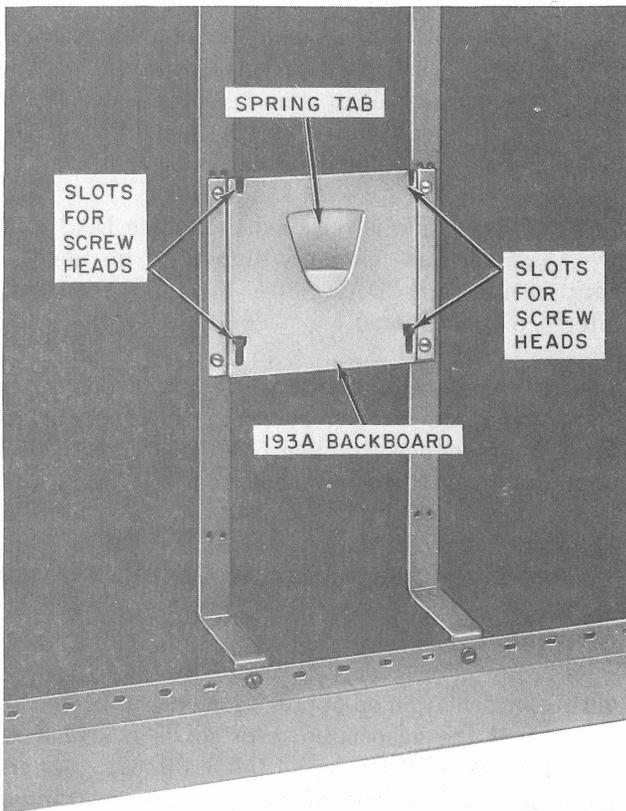

Fig. 1—193A Backboard for Mounting DAS 830A in a TTY
2.02 When DAS 830A is mounted in any TTY, a 193A backboard (Fig. 1) is used. DAS 830A is secured to the backboard by four screw heads in keyhole slots. The 193A backboard provides the required spring tension to hold the screw heads in the slots. The screw head and slot arrangement allow for removal of DAS 830A after the backboard is mounted in the TTY. The brackets required to mount the backboard in the TTY are listed below.